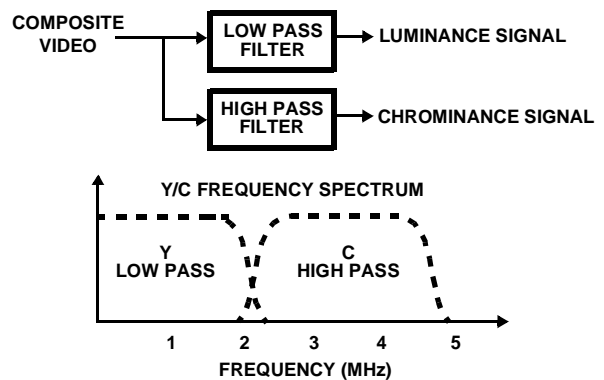

FIGURE 3. LOW PASS FILTER TECHNIQUE SPECTRUM
color TV was first available. To extract luminance (Y) information a low pass filter with a cutoff around 2MHz to 2.5MHz is used. A high pass filter with a bandpass characteristic of 2.5MHz to 5MHz is used to pass the chrominance (C) information. This method works because the C information is centered around 3.5MHz (4.43MHz for PAL) and extends down to 2.5MHz. Figure 3 shows a typical frequency plot of this technique. The drawback of this technique is loss of detail. High frequency luminance information is removed from the signal and as a result much detail is lost. Edges of objects in a scene contain very high frequency information, loss of these frequencies blur the picture. Some other artifacts from using this technique are high frequency luminance crosstalk and serious cross-color effects. This method, although low in cost, produces poor quality video, subsequently this technique is used only on very low cost VCRs these days.